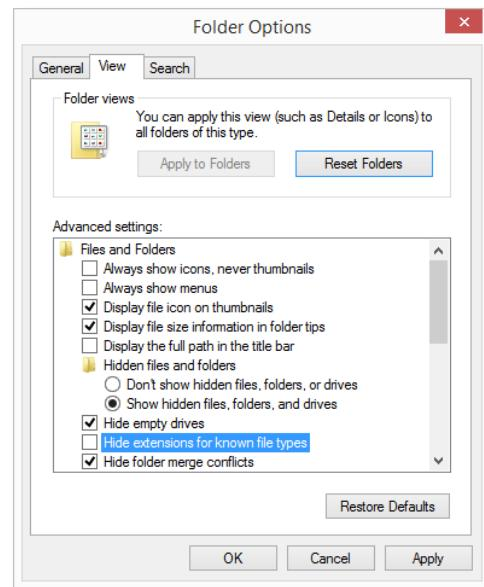

Figure 59: The ‘Folder Options’ window.
3. The ‘Folder Options’ window will appear (**Figure 59**). Select the **View** tab and uncheck the option **Hide extensions for known file types**.
1. Open the CDF in Notepad (or Textedit). Note that all the information present in the Excel spreadsheet shown in **Figure 59** is also visible in Notepad (**Figure 62**).